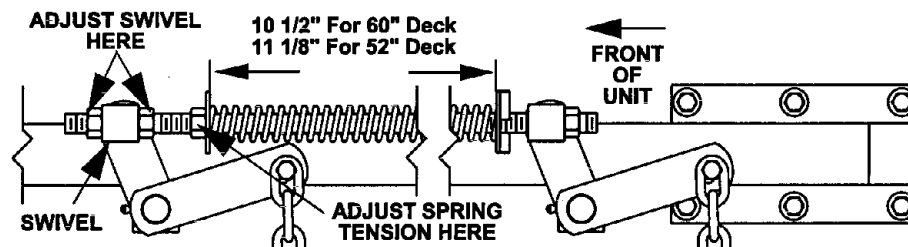

FIG. 7
- c) Check tire pressure of all four (4) tires. If needed, adjust to 13 psi (90 kPa).
- e) Raise the deck to the 5" height position and take all force off of the two large deck lift springs by loosening the nut at the front of each spring. See Fig. 7.
- f) Lower the deck to the 1-1/2" height position. Place a 3/4" thick block of wood under each of the two (2) rear anti-scalp roller brackets and place one under **one of the front center** anti-scalp roller brackets.
- g) Loosen the four (4) top chain bolts in slots. Check the length of the rod swivel assemblies. The distance from the outside of the rear swivel to the outside of the front swivel should be about 20-1/4 inches. Make sure that all four (4) swivels are free, adjust so they are free in holes. Note: This may not measure 20-1/4 inches on each side. Adjust length by turning nuts on either side of front swivels
- h) Adjust the two (2) rear upper chain attachment bolts in the slots to take the slack out of the chains. (Deck is still supported by wood blocks under the caster roller brackets). Tighten hardware on the rear chains.
- i) Adjust the two (2) front upper chain attachment bolts in the slots to take the slack out of the chains. (Deck is still supported by one wood block under one of the front roller brackets) If the bolts are all the way to the end of the slots, shorten or lengthen the rod/swivel assemblies as required, adjust each side the same amount.
- k) Raise deck lift lever to the 5" cutting height position (also transport position, See Fig 5. Adjust spring compression until proper distance is obtained between the two large washers (See Fig 7). Adjustment is made by turning the nut at the front of each spring (clockwise will shorten the spring, counter-clockwise will lengthen the spring).